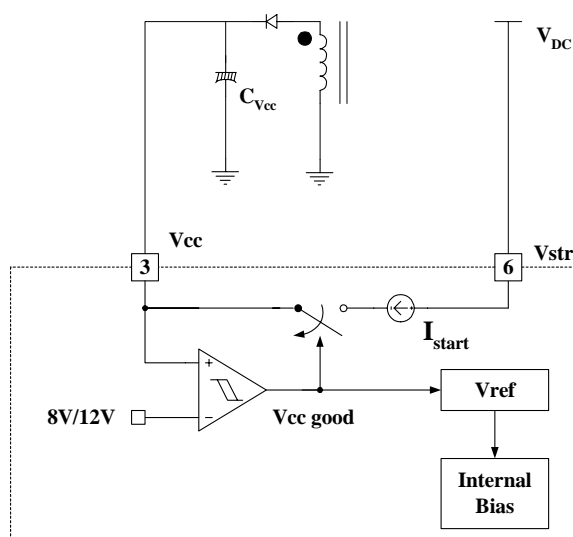

Figure 4. Internal startup circuit
**1. Startup :** In previous generations of Fairchild Power Switches (FPS™) the Vcc pin had an external start-up resistor to the DC input voltage line. In this generation the startup resistor is replaced by an internal high voltage current source. At startup, an internal high voltage current source supplies the internal bias and charges the external capacitor (CVcc) that is connected to the Vcc pin as illustrated in figure 4. When Vcc reaches 12V, the FPS™ begins switching and the internal high voltage current source is disabled. Then, the FPS™ continues its normal switching operation and the power is supplied from the auxiliary transformer winding unless Vcc goes below the stop voltage of 8V.